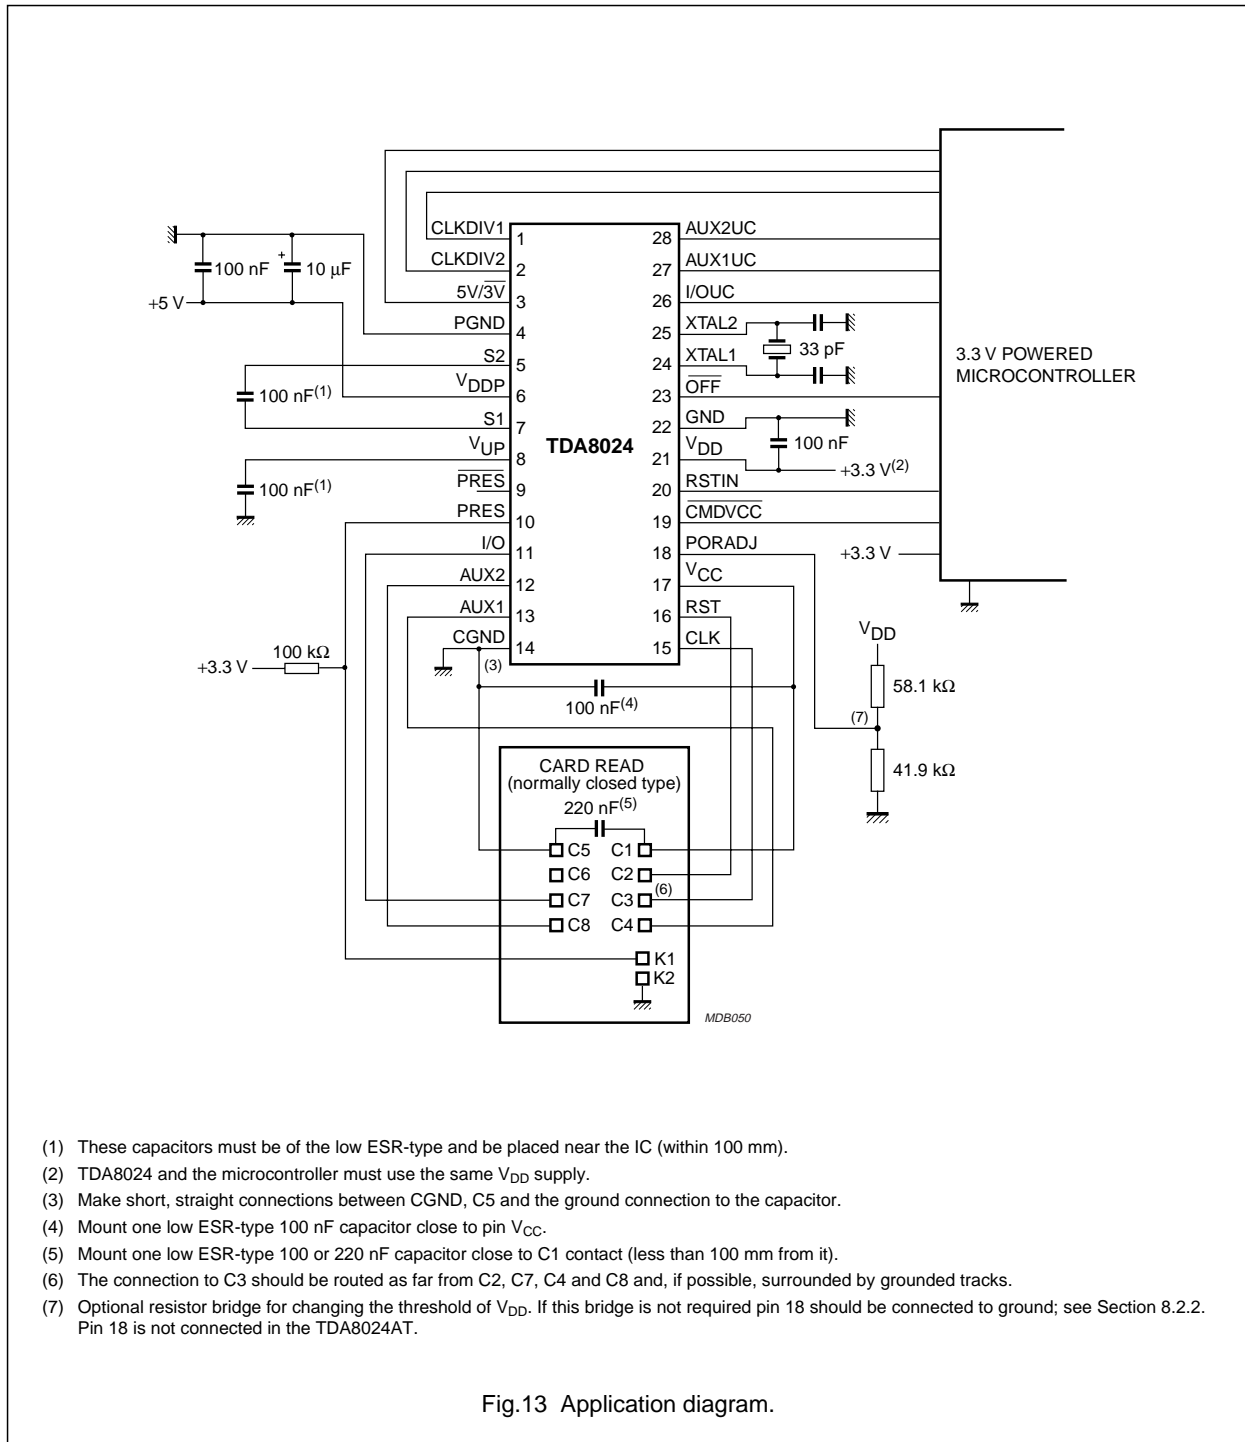

Fig.13 Application diagram.
- To meet these specifications, pin V_{CC} should be decoupled to CGND using two ceramic multilayer capacitors of low ESR both with values of 100 nF, or one 100 nF and one 220 nF (see Fig.13).